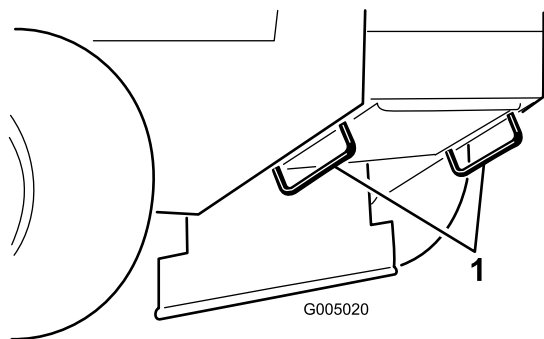

Figure 12
5. Use the metal tie-down loops on the machine to securely fasten the machine to the trailer or truck with straps, chains, cable, or ropes (Figure 12).